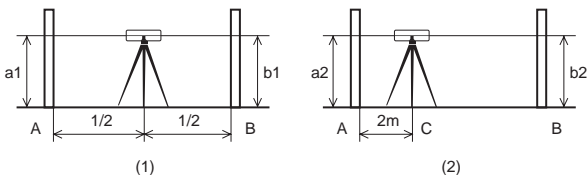

Fig. 5
- ① Set and level the instrument at a point midway between two points. Set leveling staff on point A, B. Align the staff by telescope and note the readings of a_1 , b_1 (See Fig. 5(1)).
- ② Move the instrument to a position (point C) about 2m from one of the points A or B. Level the instrument once again and note the readings of a_2 , b_2 (See Fig. 5(2)). If $a_1 - b_1$ is not equal to $a_2 - b_2$, adjustment is required.
- ① At point C, screw off the back cover to expose the reticle adjusting screw.
- ② Using the adjusting pin, carefully turn the adjusting screw until the horizontal hair gives the reading $b_2 = a_2 - (a_1 - b_1)$ on staff.
- ③ Repeat the above procedure until the deviation is less than $2\text{mm}/30\text{m}$.
- ④ Screw on the back cover after completing the adjustment.